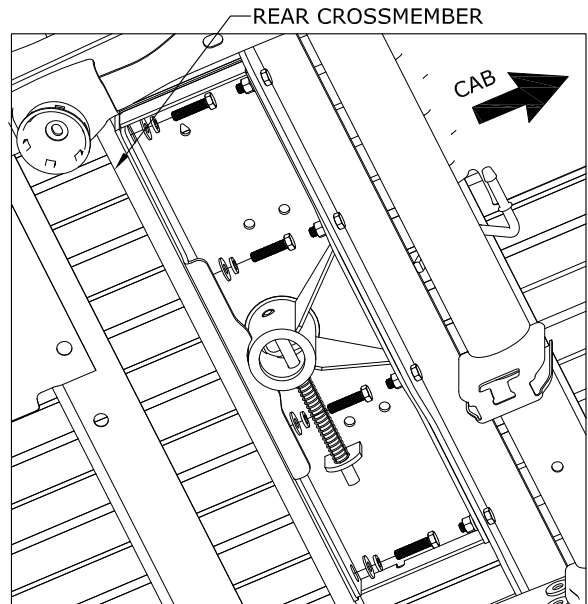

FIGURE B11: View under the center section looking from in front of the axle on the passenger side.
- 6. Attach the rear cross member to the center.** Slide the rear cross member up against the center section. Line up the slots in the center with the threaded holes in the cross member. Attach the two members using $\frac{1}{2}$ x 2" long bolts, flat washers, and lock washers as shown in figure B11. Hand tighten bolts.